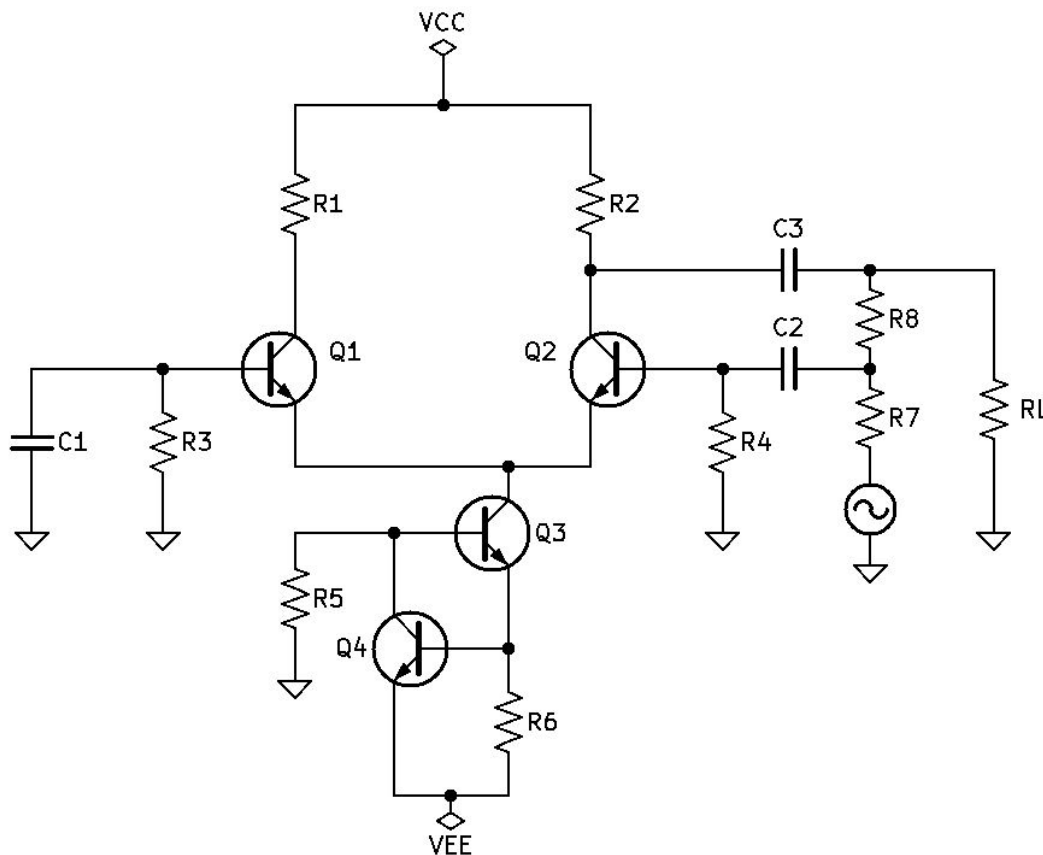

Figure 6.3: Single-Ended Inverting Diff Amp with Gain Control.
1. See Figure 6.3 *Single-Ended Inverting Diff Amp with Gain Control*.